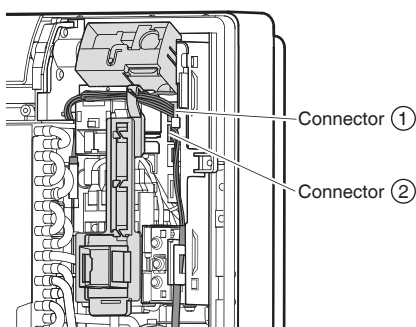
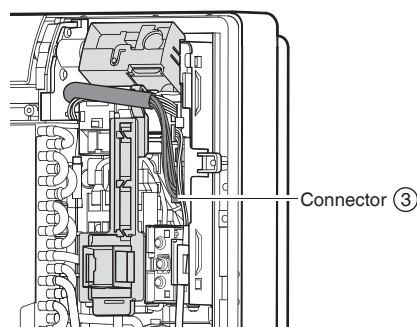

Fig. 4
Fig. 5
- 4) Remove connectors ① ② ③. (See Fig. 4 and Fig. 5)
- 13) Install the connectors ① ② and guide the cord as shown in the figure. (See Fig. 4)
- 14) Install connector ③ and guide the cord as shown in the figure. (See Fig. 5)